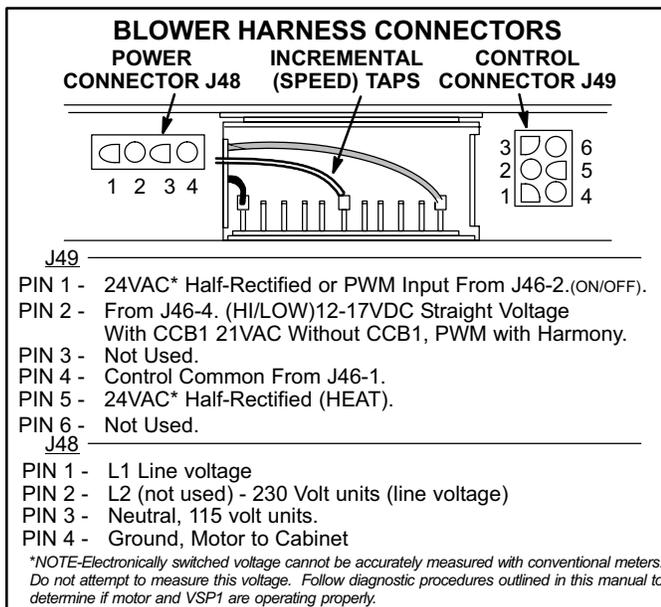

FIGURE 5
Figure 5 shows the two quick-connect jacks (J48 and J49) which connect the motor to the unit. Jack J48 is the power plug and jack J49 connects the unit controls to the motor. The power plug must be removed to gain access to the incremental (speed) taps.
- 3 - Disconnect AC power plug P48 from motor/controller. See figure 5.